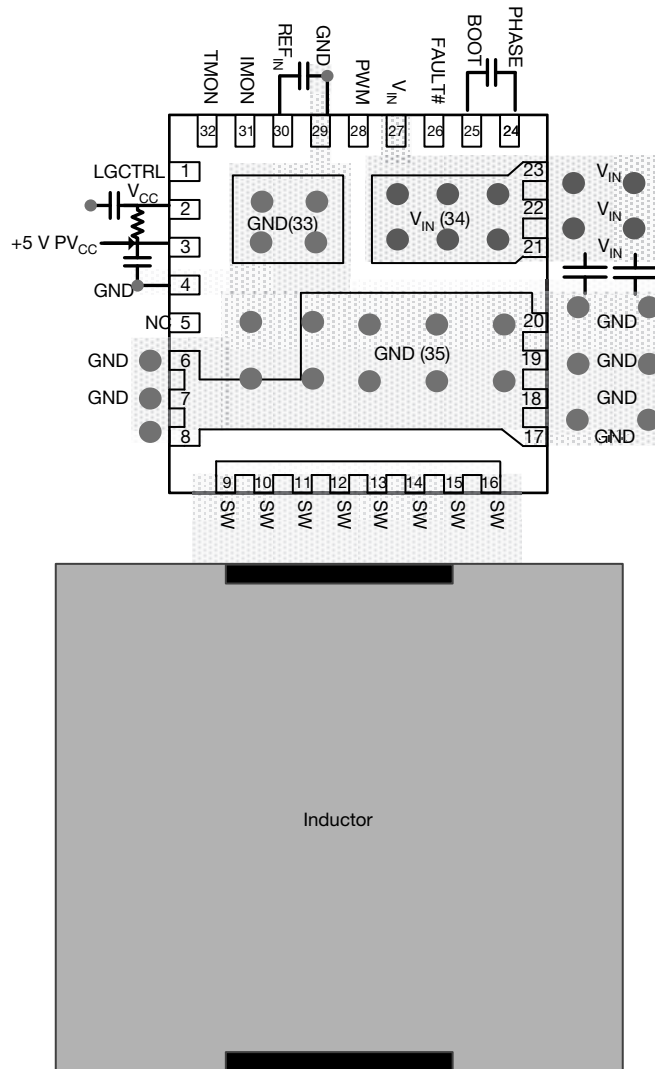

Fig. 16 - Single-Phase PCB Layout for Minimizing Current Loops
- Place multiple 10 μF or greater ceramic capacitors directly at device between VIN and PGND as indicated in Fig. 16 This is the most critical decoupling and reduced parasitic inductance in the power switching loop. This will reduce overall electrical stress on the device as well as reduce coupling to other circuits. Best practice is to place the decoupling capacitors on the same PCB side as the device.
- Place PVCC, VCC and BOOT-PHASE decoupling capacitors at the IC pins as shown in Fig. 16.